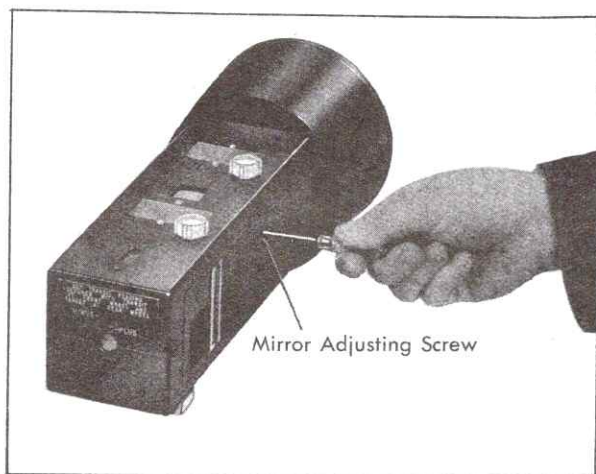

Fig. 12-11 Readjusting Horizontal Calibration
2. Turn mirror adjustment screw until target split image becomes aligned, Fig. 12-11.